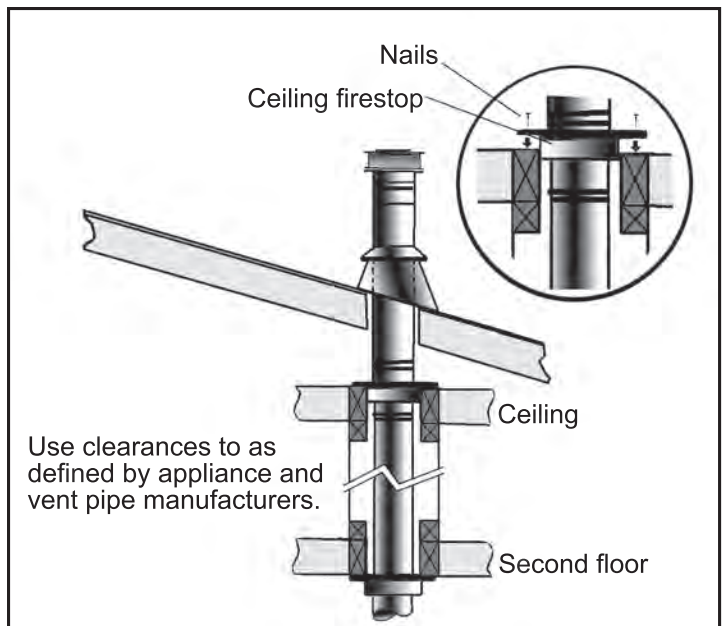

**Figure 30: Use of Wall Straps.**
- (1) If an offset is necessary in the attic to avoid obstructions, it is important to support the vent pipe every 3 feet (914 mm), to avoid excessive stress on the elbows, and possible separation. Wall straps are available for this purpose (see Figure 30).
- (2) When ever possible, use 45° degree elbows instead of 90° degree elbows. The 45° degree elbow offers less restriction to the flow of flue gases and intake air.